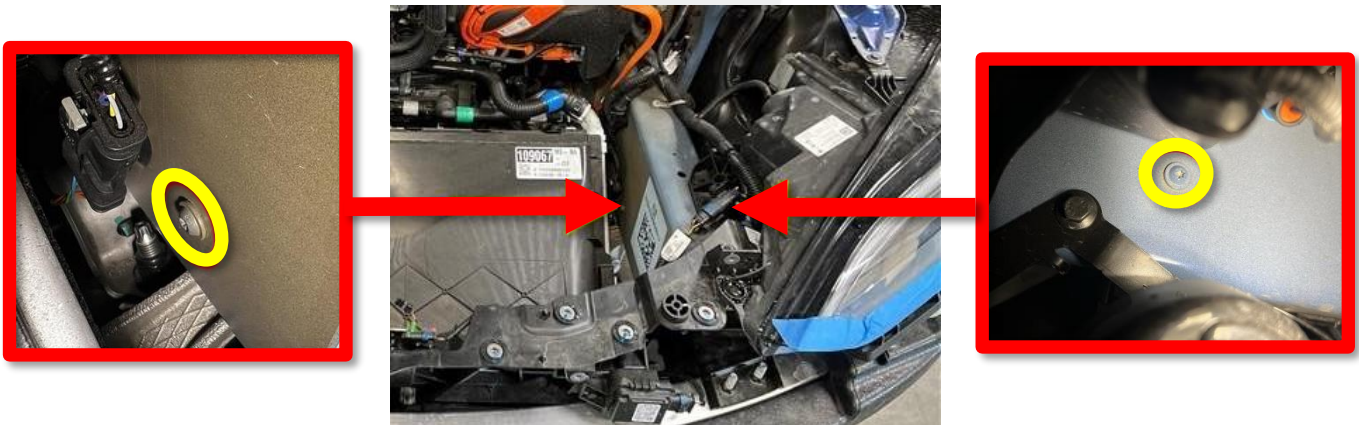

Figure 2 – Bolt locations, LH front frame rail
4. Repeat step 2 on the LH front frame rail (Figure 2).